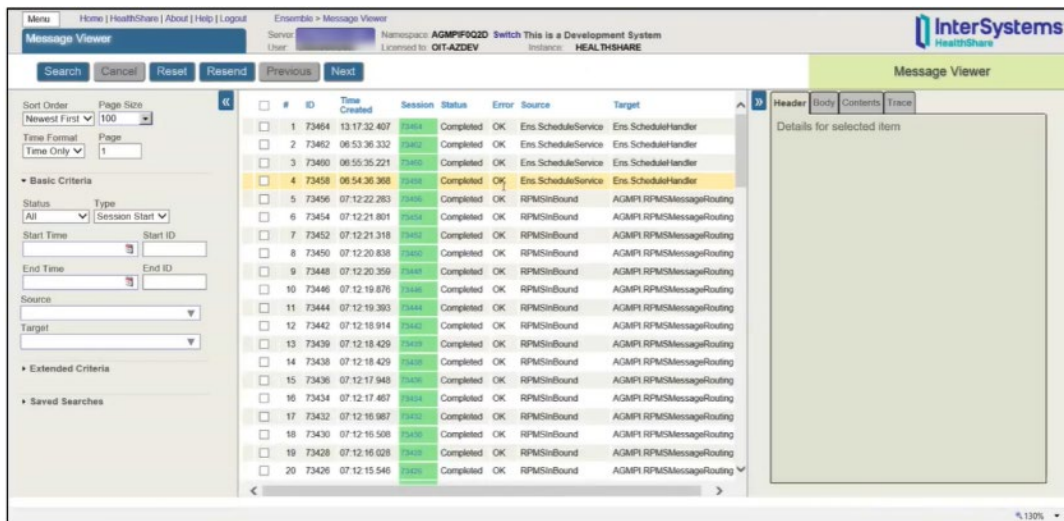

Figure 5-2: Message Viewer
2. The **Message Viewer** page opens (Figure 5-2).